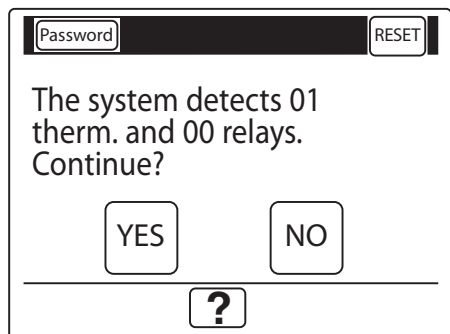
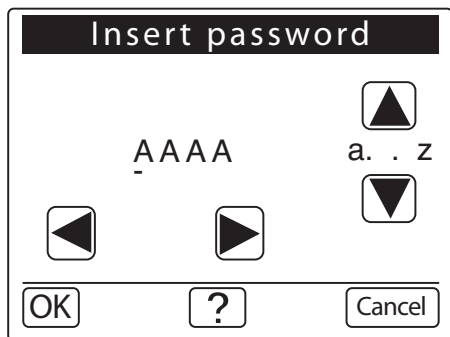
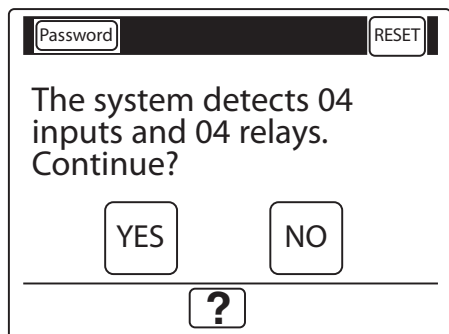

Fig. 11
Fig. 12
Fig. 19
Continue by installing, if present, modules OH/R (without jumper SW1÷3 inserted), OH/RI, OH/6I, OH/RP, and any other expansion modules by pressing on the service push buttons included on the devices to be installed (if not previously installed). Installation is confirmed by the flashing of the LED on the recognized device and by the increase of the number of relays and thermostats detected on the terminal (depending on the module) (fig. 11).
**NOTE.** When the system is started for the first time, no password insertion is required. When you activate the "password" button (fig. 11) subsequent accesses to the system will be permitted only by inserting the password (fig. 12). The password is composed of the first 4 numbers and/or letters of the ID code of the terminal, printed on the label on the printed circuit.
The request for configuration of the home automation system is shown (fig. 19).
**NOTE.** When the system is started for the first time, no password insertion is required. When you activate the "password" button (fig. 19) subsequent accesses to the system will be permitted only by inserting the password (fig. 12). The password is composed of the first 4 numbers and/or letters of the ID code of the terminal, printed on the label on the printed circuit.